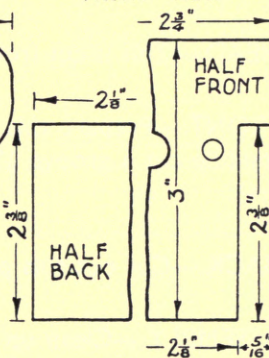

FIG 3
**BOTTOM.**—This is  $11" \times 6\frac{1}{4}" \times \frac{1}{2}"$  and is shown in Fig. 3. Shape the front, then mark out and cut the stopped groove  $\frac{1}{8}"$  deep for the head.